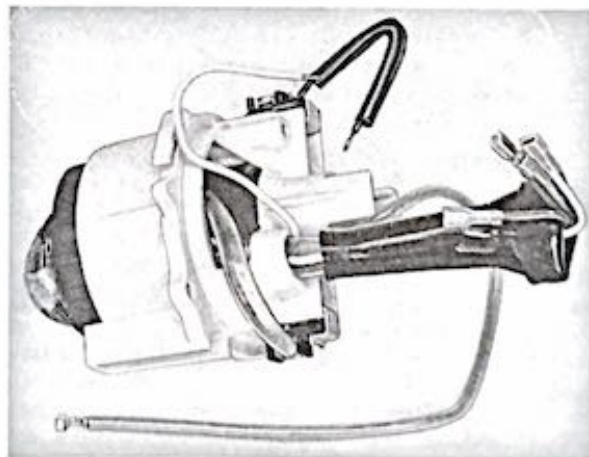

Figure 15. Inserting field into bell housing
(1) Continuity of field coil windings can be determined with ohm meter probes across red and green leads and across white and yellow leads. If either pair is open or dead field must be replaced.
(2) Testing for grounding or insulation breakdown can be made using the high voltage tester set at 900 volts. Do not lay probes across wires, test from each wire to steel body plates alternately.
(3) Armatures can also be tested for grounded condition by laying the probes from commutator to center steel shaft of armature.
c. Reassembly begins with insertion of field into bell housing as in figure 15. Lead tube (111981) and speed switch and cable boot should be slipped over field leads. Do not fasten cable tie until after bell housing is assembled to motor housing and selector switch is mounted, leads can then be attached and outer tubing and boot can be adjusted as required before securing with cable tie.